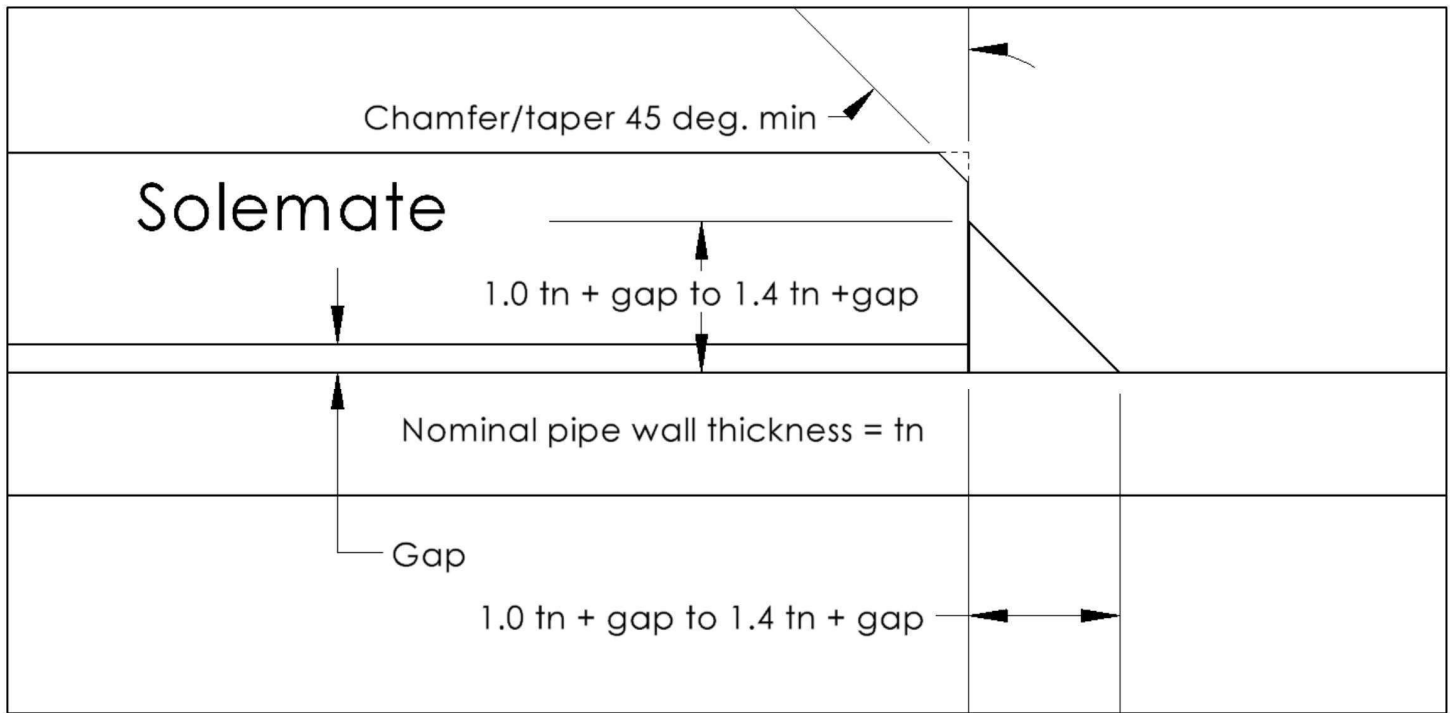

Figure 10
2. For Type B sleeves, after the longitudinal weld seam is completely welded, weld the circumferential ends to the pipe with fillet welds. The fillet weld size requirements are detailed in Figure 10. Carefully control the size and shape of the circumferential fillet welds. Strive for a concave faced fillet weld, with streamlined blending into both members; avoid notches and undercuts. The smoother and more streamlined the weld, the greater the resistance to fatigue failure. The worst possible shape would be a heavy reinforced convex weld with an undercut. Improper weld shape can lead to rapid fatigue failure, which can cause leakage, rupture, or an explosion.